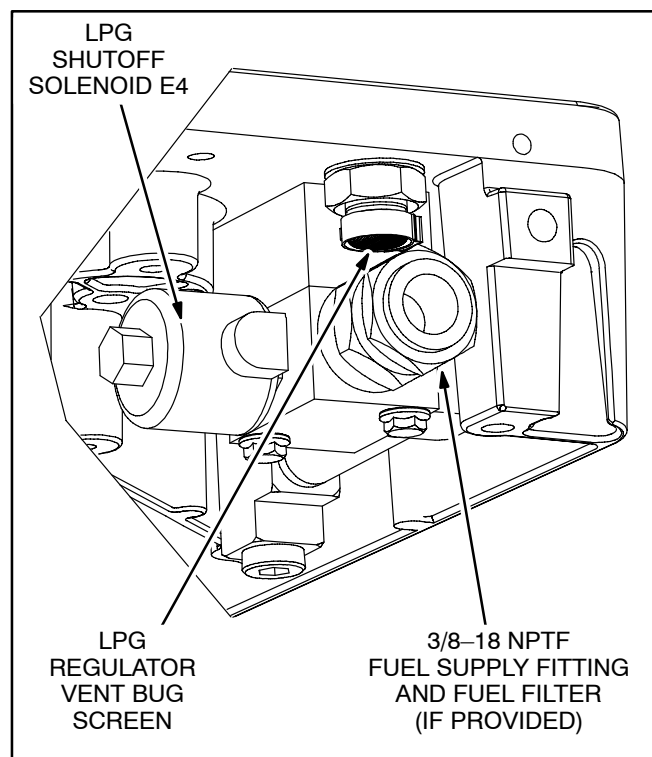

FIGURE 8-14. LOW-PRESSURE LPG FITTING
**Test for Leakage:** If there is a smell of gas when the genset is not running, or any other reason to suspect that the valve (Figure 8-14) is leaking, connect the inlet of the valve to a source of air pressure regulated to not more than 14 inches WC (35 cm) and disconnect the outlet hose. Replace the solenoid if it leaks. Use a soap bubble to check for leakage.
Remove the filter at the inlet to the solenoid (Figure 8-14), if provided, and clean off debris from the filter and iron filings from the magnet. Torque the filter back on to 25 lb-ft (34 N-m).